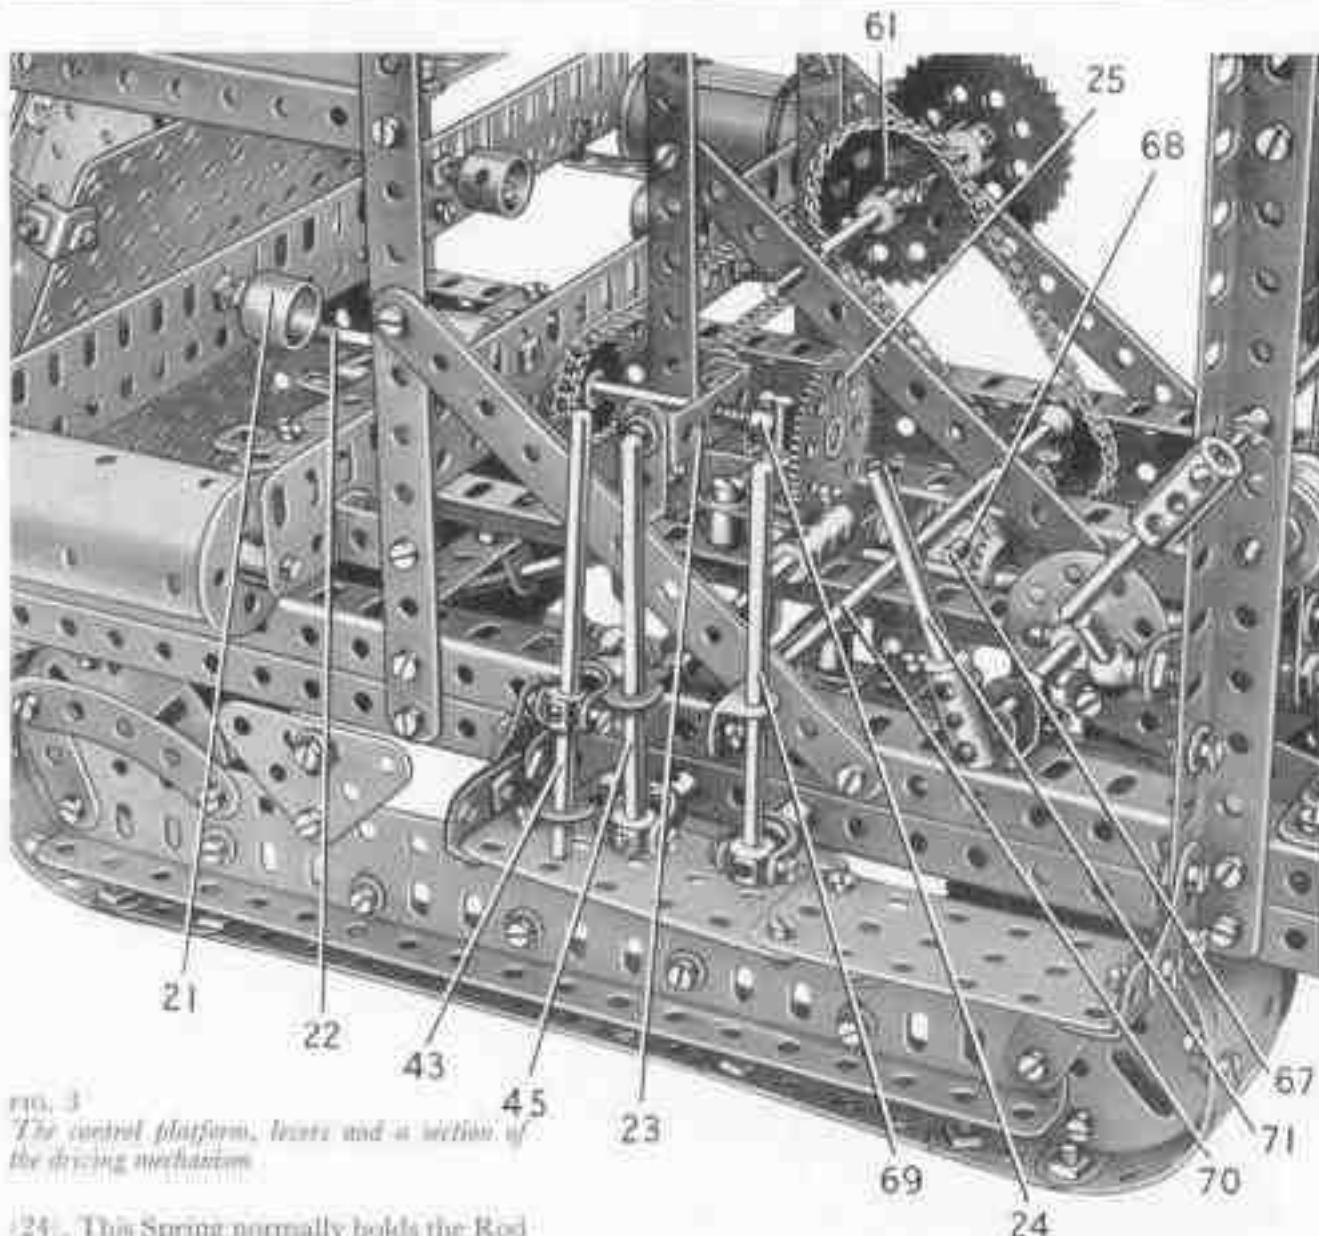
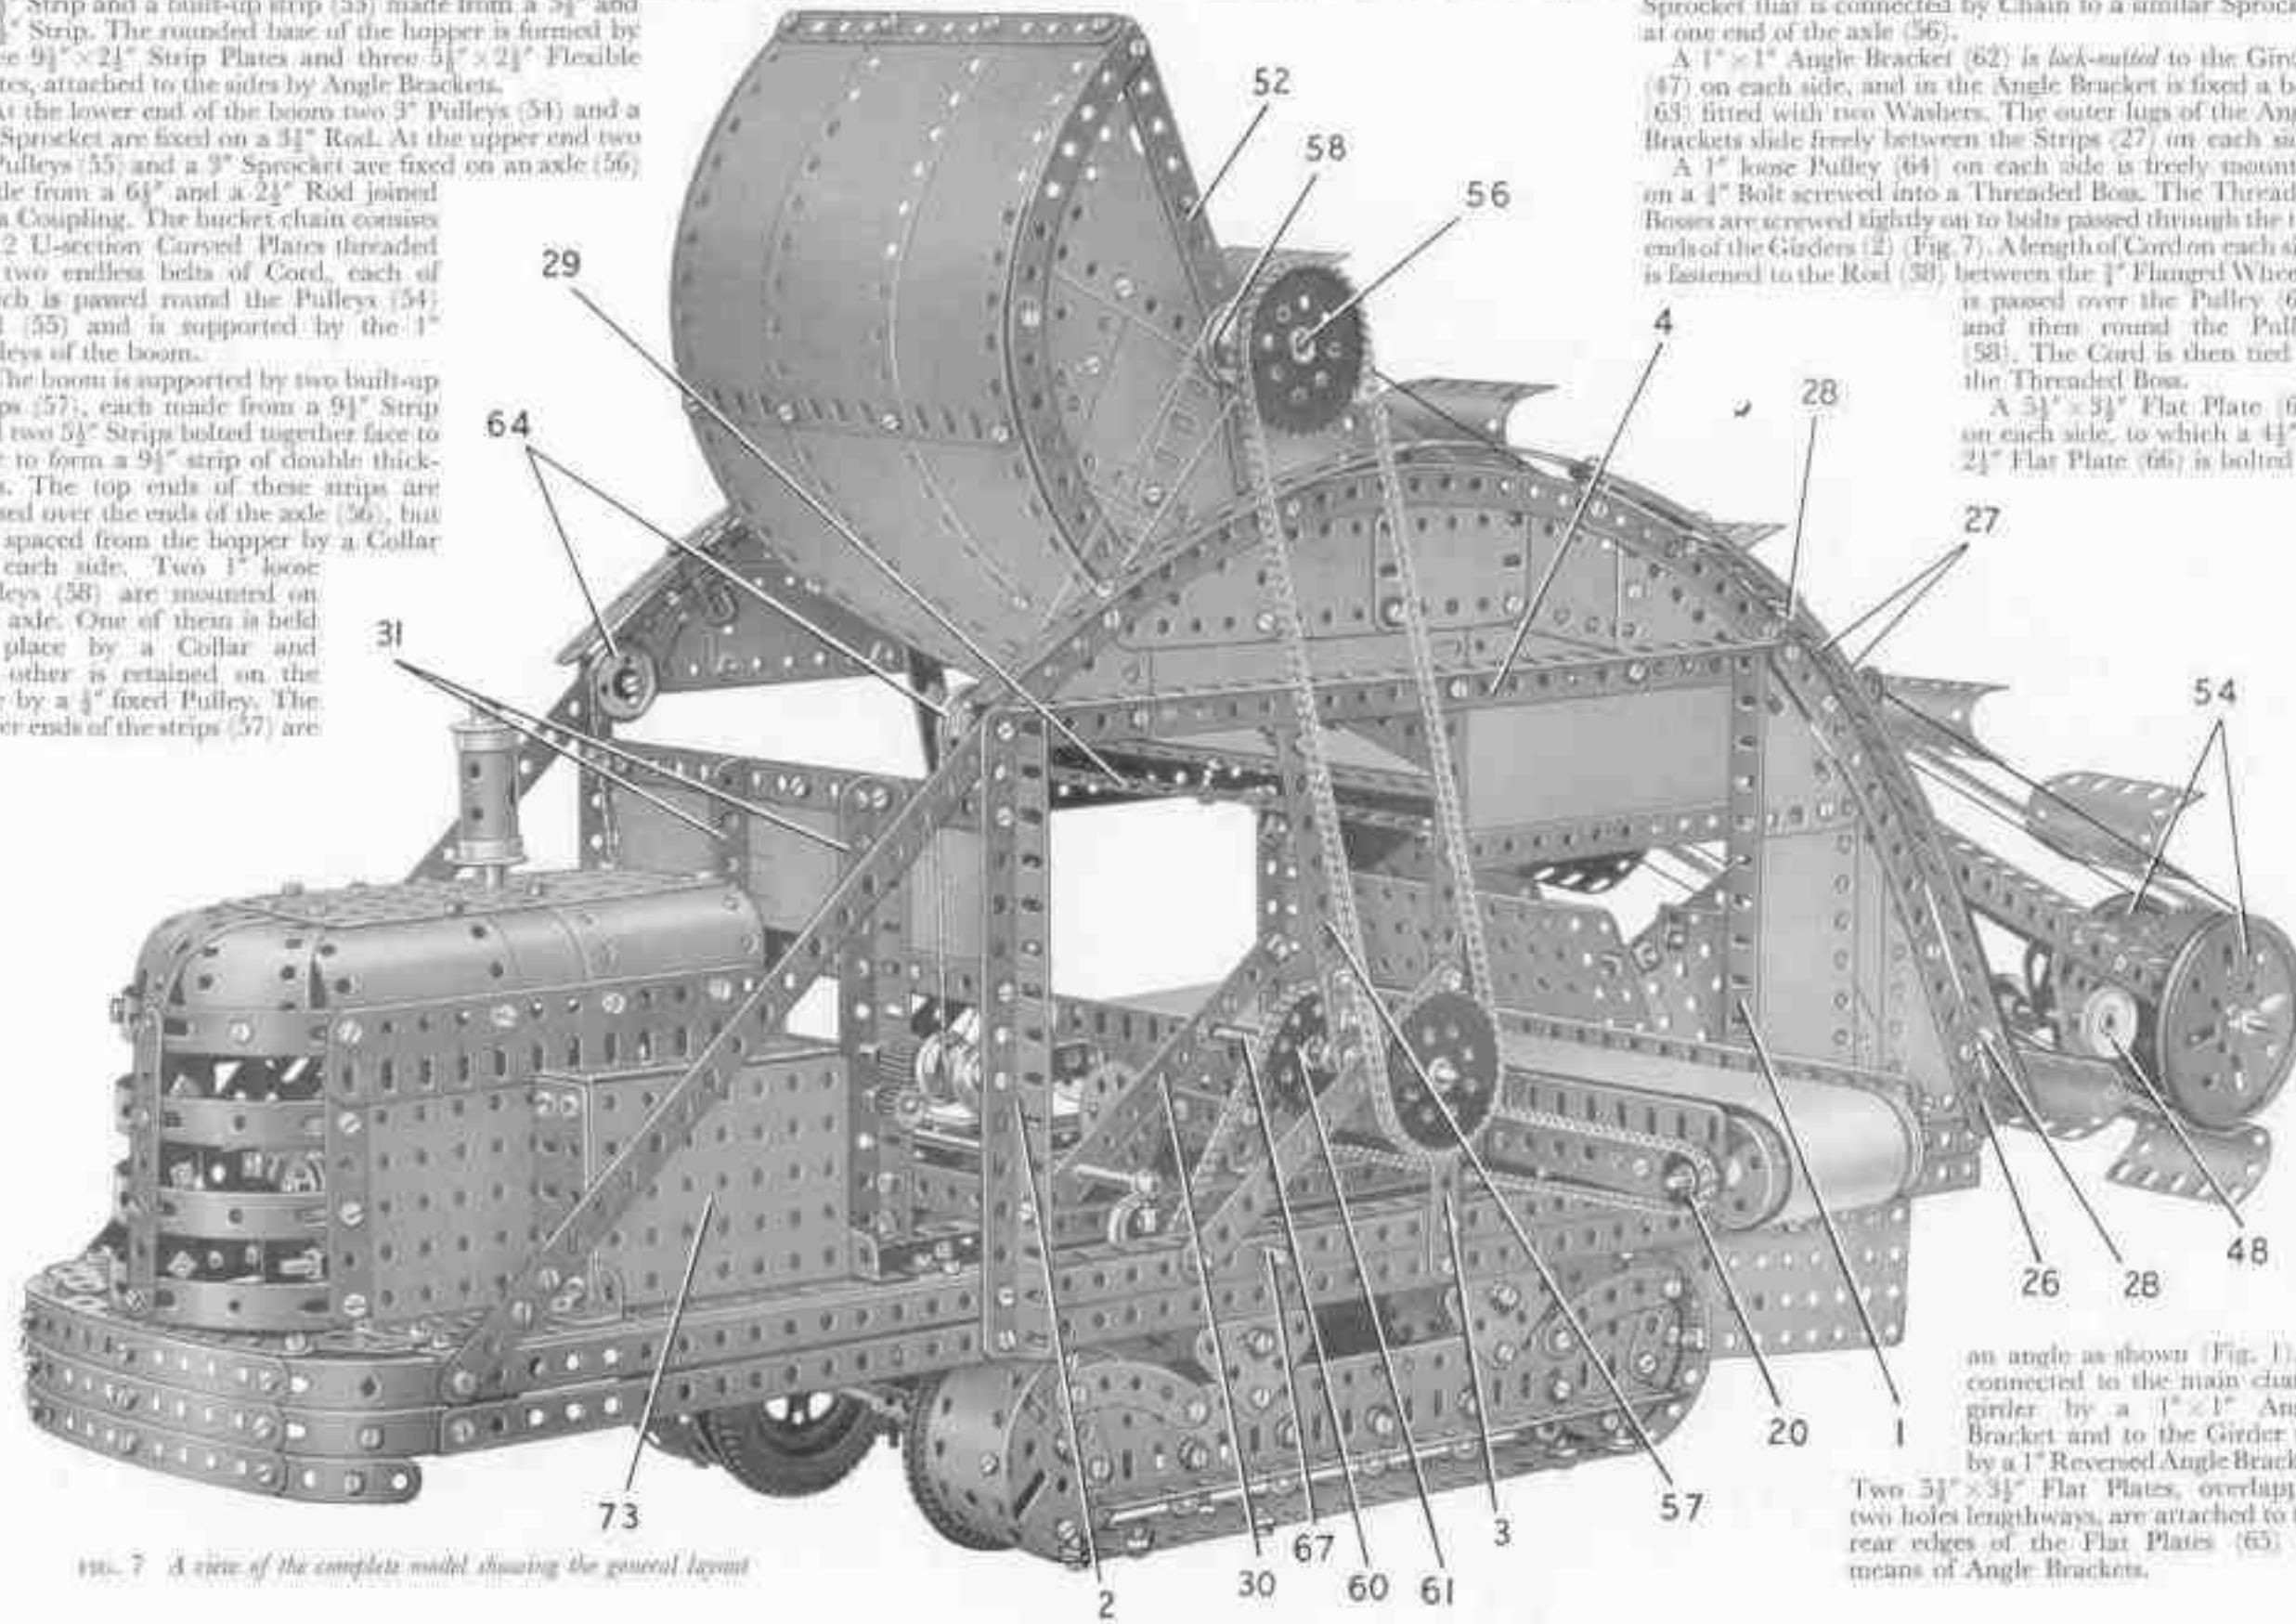

FIG. 3
FIG. 7. A view of the complete model showing the general layout.
Each side-member of the chassis consists of two $2\frac{1}{4}$ " Angle Girders arranged to form a channel section girder by bolting to them two $7\frac{1}{2}$ " Angle Girders (1) and (2) and a $7\frac{1}{2}$ " Strip (3) (Fig. 7). The top ends of the Girders (1) and (2) and the Strip (3) are connected by bolting to them a $12\frac{1}{2}$ " Angle Girder (4). The side-members are connected by two built-up strips (5) and (6) (Fig. 2), each made from two $5\frac{1}{2}$ " Strips overlapped seven holes. Two similar built-up strips (7) and (8) are fixed in position, and a further built-up strip (9) (Fig. 3) is bolted across the chassis. The strip (9) is made from two $4\frac{1}{2}$ " Strips overlapped three holes. Two $10\frac{1}{2}$ " Angle Girders (10) are bolted to the strips (5) and (6) as shown.
The Motor switch is operated by a lever (71) (Figs. 3 and 6) formed by a $2\frac{1}{2}$ " Rod in a Coupling. The Coupling is fixed on a $3\frac{1}{2}$ " Rod mounted in Double Brackets bolted to the chassis, and the Rod carries a Bush Wheel to which a built-up strip is
The conveyor frame consists of two $12\frac{1}{2}$ " Flat Girders, one of which is attached to the Girders (1) (Fig. 7) by $1\frac{1}{2} \times 1\frac{1}{2}$ " Angle Brackets while the other is similarly attached to the Strips (3). A $2\frac{1}{2} \times \frac{1}{2}$ " Double Angle Strip (19) (Fig. 2) is bolted between the Flat Girders at one end.
The main conveyor rollers are formed by $1\frac{1}{2}$ " Flanged Wheels pressed into Cylinders, and each is fixed on a $1\frac{1}{2}$ " Rod mounted in the Flat Girders. The Rod that supports the driving roller carries a $1\frac{1}{2}$ " Sprocket (20) (Fig. 7) and two $2\frac{1}{2}$ " Driving Bands are stretched round this roller. The belt can be made from a length of cloth or strong paper joined together at its ends. The supporting rollers (21) (Fig. 3) are Chimney Adapters, each of which is free to turn on a $\frac{1}{2}$ " Bolt and is held against the head of the Bolt by two nuts screwed against each other.
The Sprocket (20) is driven by a $1\frac{1}{2}$ " Spur-socket on a $6\frac{1}{2}$ " Rod (22) (Fig. 3). This Rod is supported in the conveyor frame and in a $1\frac{1}{2} \times 1\frac{1}{2}$ " Double Angle Strip (23) that is attached to $1\frac{1}{2} \times 1\frac{1}{2}$ " Angle Brackets bolted to the Girders (10). A Compression Spring is fitted on the Rod between Double Angle Strip (23) and a Collar
24. This Spring normally holds the Rod so that a 37-tooth Gear (25) on it is kept clear of the Pinion (15) (Fig. 3). The Gear and Pinion can, however, be brought into mesh by sliding the Rod, to engage the drive to the conveyor. The movement of Rod (22) is restricted by a Collar placed inside the conveyor frame and is controlled by a lever (45) (Fig. 3). This lever is a 3" Rod fixed in a Sleeve Bearing attached to the chassis by a Pivot Bolt. The lever carries as shown a Rod and Strip Connector fixed on a 1½" Rod that slides in a Double Bracket bolted to the chassis. A Strip Coupling on the 3½" Rod is connected by a 1" Bolt to one arm of a Bell Crank, and this is mounted freely on a Pivot Bolt fixed in one of the Girders (10). The other arm of the Bell Crank carries a Threaded Pin that engages between the Collar (24) and the Gear (25).
(Figs. 3, 5, 7 and 8)**
A 4" Rod (67) (Fig. 3) is mounted in one of the Girders (10) and in one side of the chassis frame. The Rod carries a 1" Bevel Gear (68), a 1" Sprocket connected by Chain to the 1½" Sprocket (61), and a 1" Flanged Wheel. A Compression Spring is fitted on Rod (67) between the Girder (10) and the Flanged Wheel, and this normally holds the Rod in such a position that Bevel Gear (68) is clear of Bevel Gear (17). The two Bevel Gears can be meshed by moving a lever (69). The lever is a 3½" Rod held in a Swivel Bearing fixed on a Pivot Bolt bolted to the side of the chassis. An Angle Bracket passed over the lever is lock-nutted to a Rod and Strip Connector on a 6½" Rod (70), and a Handrail Coupling engagess the 1" Flanged Wheel on Rod (67).
The side of the engine cover seen in Fig. 7 consists of a 3½" x 2½" Flat Plate and a 3½" Flat Girder bolted at one end to a 3½" Strip and at the other end to a 3½" Flat Girder. The other side is formed by a 5½" Strip, a 5½" Flat Girder, a 3½" Flat Girder, a 3½" Strip and a 3½" Bevel Girder attached to the 3½" Strip by two Hinges. A 3½" Angle Girder extended by a 2½" Angle Girder is bolted to the lower edge of each side of the engine cover, and these Girders are used to attach the structure to the chassis frame. At one side of the engine cover a box structure (73) is fitted (Fig. 7).